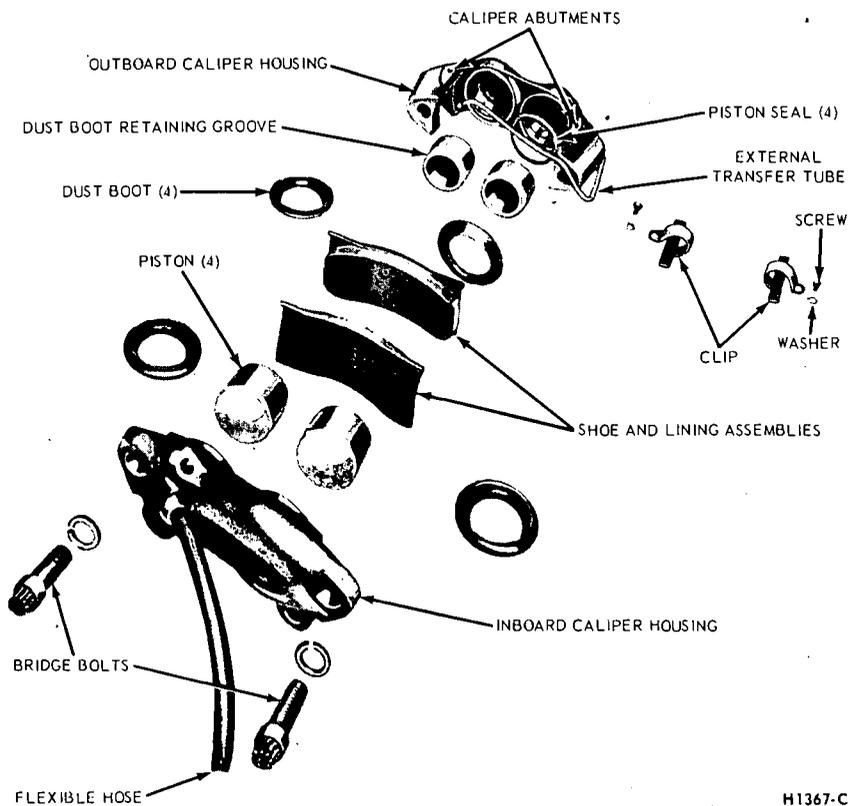

FIG. 46—Caliper Assembly—Disassembled—Lincoln Continental
Do not remove the bridge bolts that hold the two halves of the caliper together. The two caliper housings are shown separated in Fig. 46 for illustration purposes only.
2. Remove the two attaching bolts and the caliper splash shield (Fig. 46).
If a piston is so completely seized in the cylinder bore that it can not be removed with the special tool, the caliper housing must be replaced, by positioning two screwdrivers in the piston dust boot retaining groove and prying outward. To prevent cocking, tap the end of the piston lightly around the circumference with a hammer, while the prying force is being applied. Be careful to avoid damaging the dust boot retainer in the caliper housing (Fig. 46). If this method of removal is used, the pistons must be replaced.
Clean all metal parts with isopropyl alcohol or a suitable solvent (Fig. 46). Use clean, dry, compressed air to clean out and dry the grooves and passage ways. Be sure that the caliper
6. Carefully install four new dust boots on the caliper housings and pistons. Be sure that each boot is fully seated in the groove of its respective caliper housing and piston (Fig. 46). **Do not use the original dust boots.**